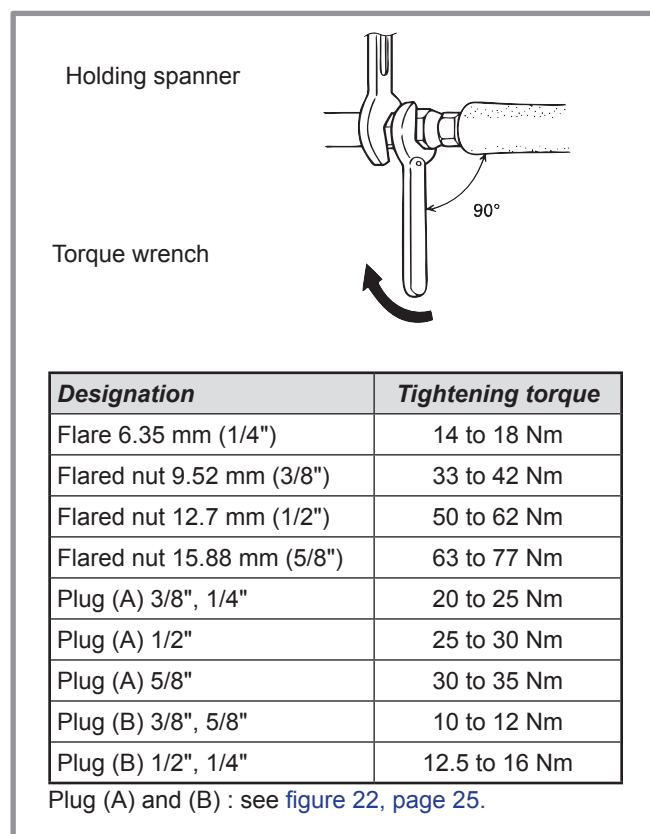

figure 20 - Tightening torques
- Refit the 2 original caps (be sure they are clean) and tighten them to the recommended tightening torque indicated in the table figure 20, page 23. A seal is achieved in the caps only with metal to metal.